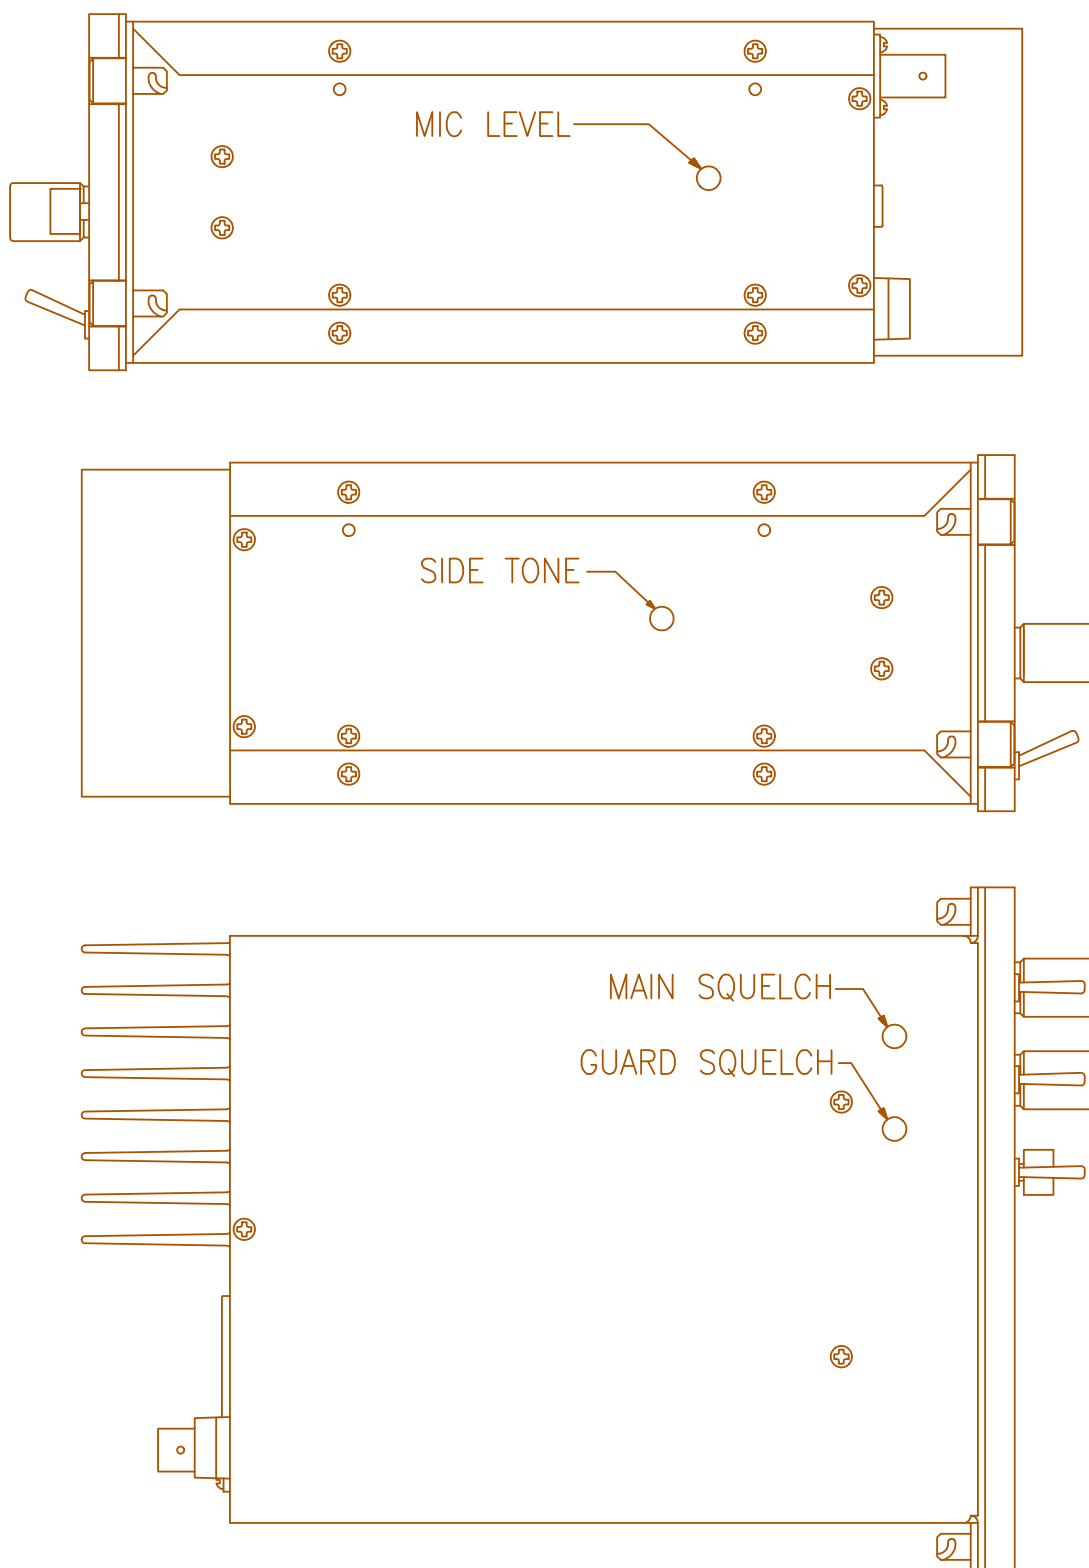

FIGURE 3.5 Microphone and Sidetone Level, Main and Guard Squelch Adjustment Access Holes
3. Adjust the microphone level potentiometer (R8 on MCU module) through the access hole located on the right side of the chassis (see FIGURE 3-5) to produce a 2.4 kHz deviation.
3. Adjust the sidetone level potentiometer (R37 on MCU module) through the access hole located on the left side of the chassis (see FIGURE 3-5) to produce a 0 dBm (0.774 VRMS) 600 ohm audio output.
3. If not, re-adjust main receiver squelch potentiometer, R3 through the access hole located on the bottom of the transceiver chassis (see FIGURE 3-5).
4. Repeat the above procedure to adjust the guard receiver squelch setting using guard receiver squelch adjustment potentiometer, R4 (see FIGURE 3-5).